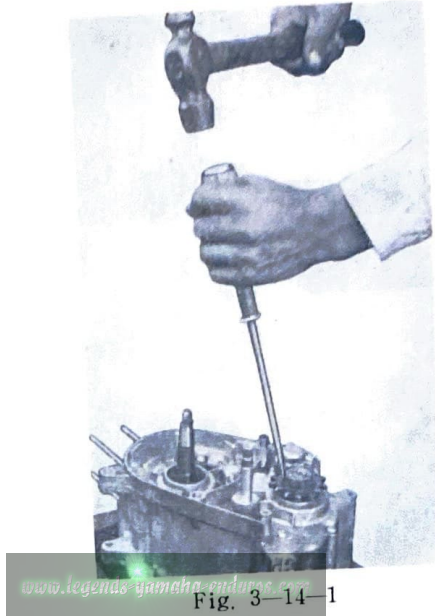

Fig. 3-14-1
- a. Straighten the bent edge of the lock washer, with a chisel. (Fig. 3-14-1)